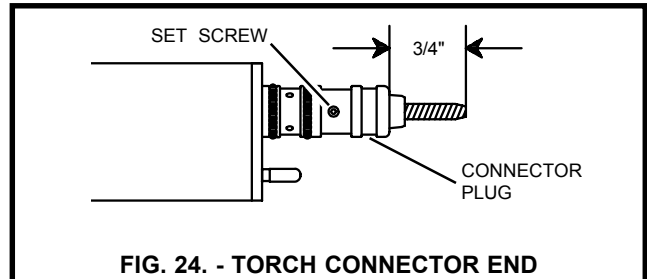

FIG. 24. - TORCH CONNECTOR END
4. Loosen set screw located on the connector end of the torch assembly (see FIG. 24).
5. Tighten set screw. (Do not over-tighten), refer to FIG. 24.